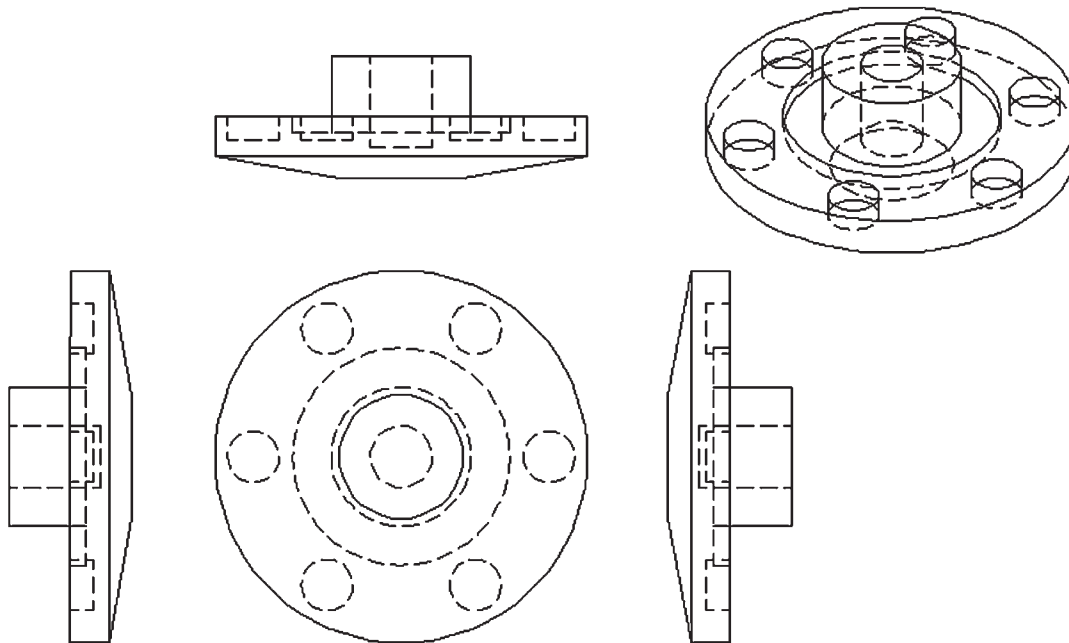

FIGURE 27.13
Step 2. The new views are attached to the movements of your mouse. Note how it can be located only in certain planes; left right, top, and bottom. Click to place the projections one time to the left and one time to the right of the main view, pressing Enter when done. The result is shown in Figure 27.13.